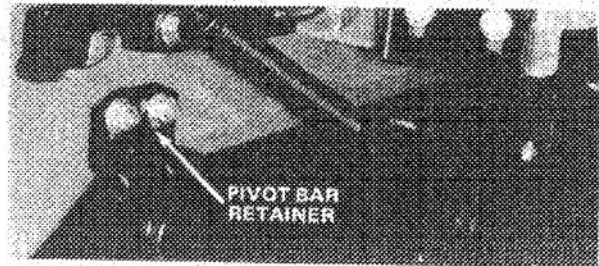

Figure 42
5. If blade tip heights are not within 3/16 inch (5 mm), level cutting unit by loosening right hand pivot bar retainer hex nuts and raising or lowering the retainer (Fig. 42).